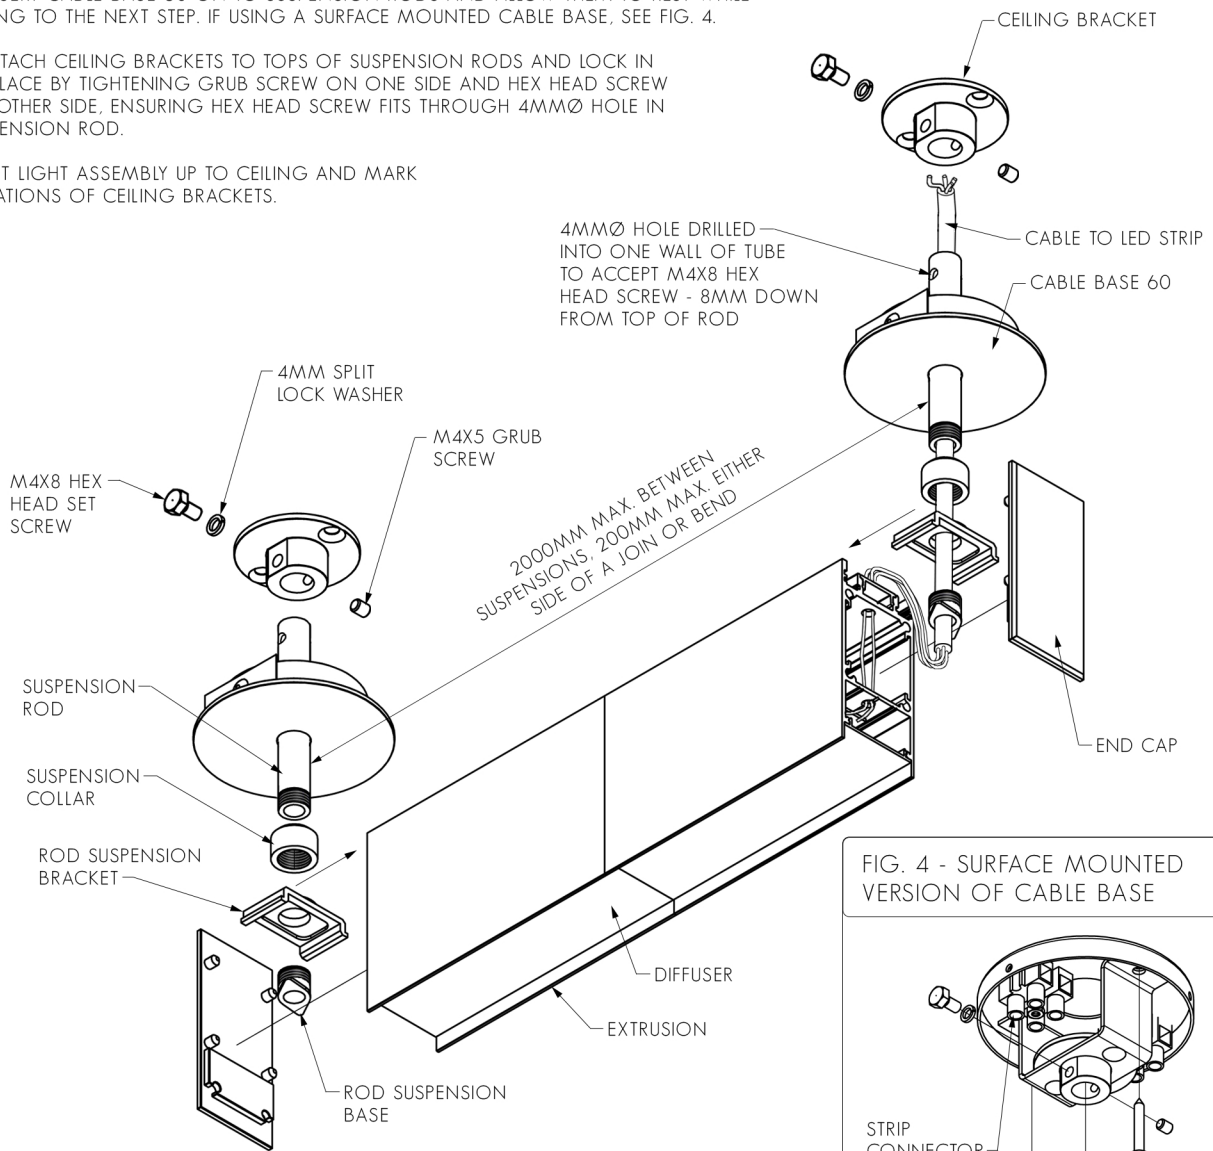

FIG. 3 - ENSURE ROD SUSPENSION BASE IS SECURE IN ROD SUSPENSION BRACKET
- FEED THE 'ROD SUSPENSION BASE' THROUGH THE HOLE IN THE 'ROD SUSPENSION BRACKET', THEN SCREW THE 'SUSPENSION COLLAR' ON TO THE 'ROD SUSPENSION BASE'. THE 'ROD SUSPENSION BASE' SHOULD FIT INTO THE REBATE IN THE 'ROD SUSPENSION BRACKET' WHICH WILL STOP IT FROM SPINNING (SEE FIG. 3).